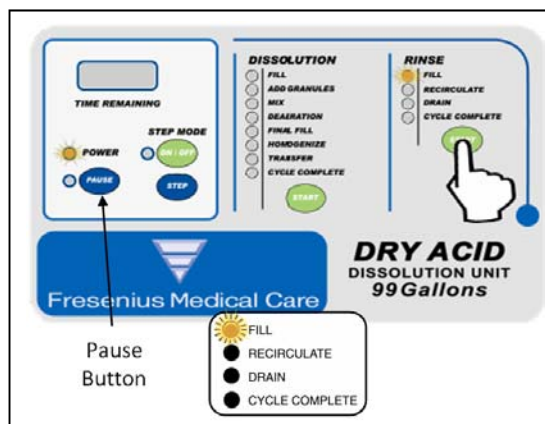

Figure 16
2. Turn the power switch ON and ensure that the water supply valve is OPEN then press the Rinse START button. The Fill Indicator Light will illuminate indicating the RINSE CYCLE has started and the Dry Acid Dissolution Unit is in FILL Operation (Figure 16).